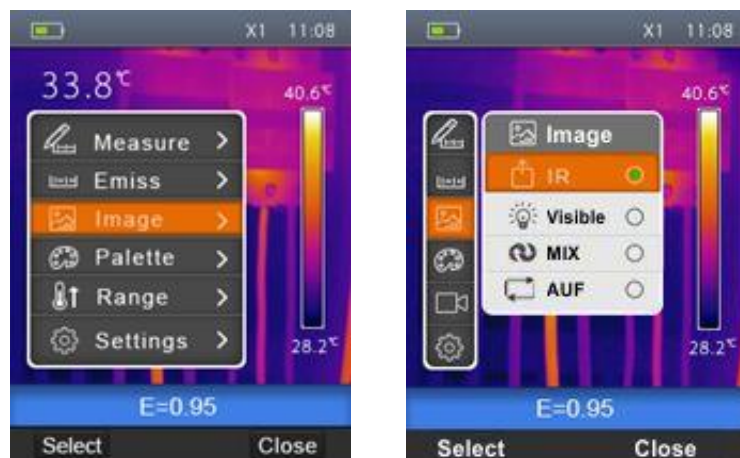

Fig. 22: Selecting the image display mode
1. Select the item “Image” using the keys \oplus or \ominus and press the key . The screen Fig. 22 – Right side is shown on the display
In Fig.22 the instrument shows the IR visualization with "Iron" palette (see § 5.2.5) in the points of the image with temperatures between 22.0°C and 37.0°C and visible image in the points outside of this range